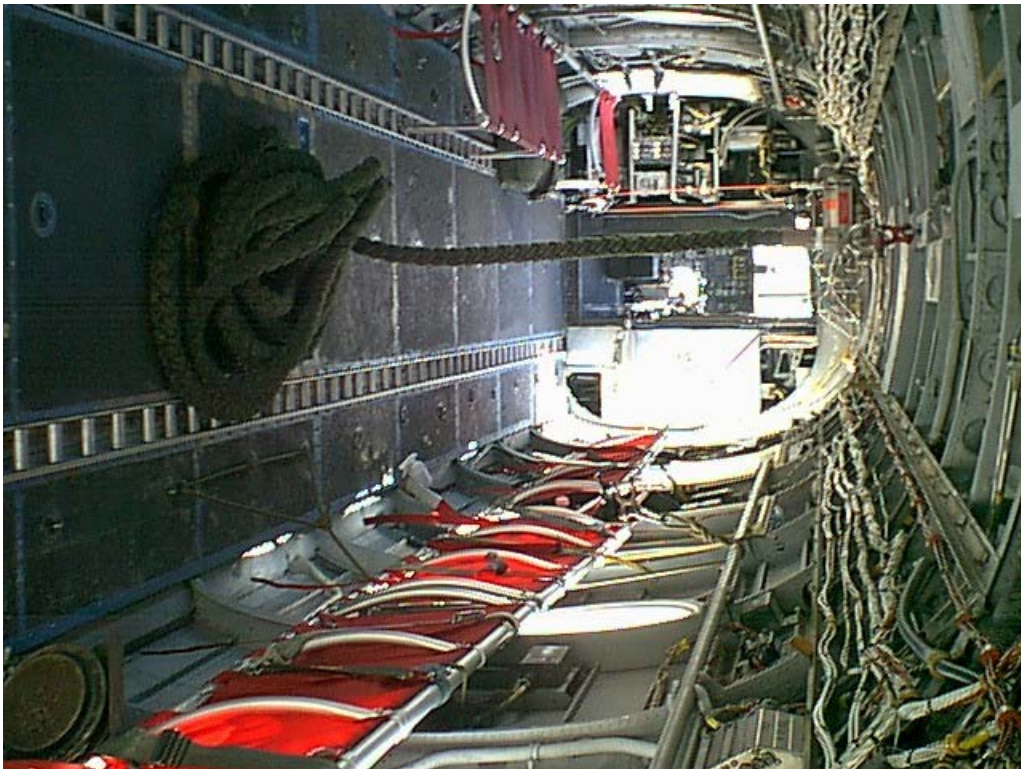

Figure 2-11. Fast Rope Interface Kit Installed
### (6) Installation (Figure 2-11):